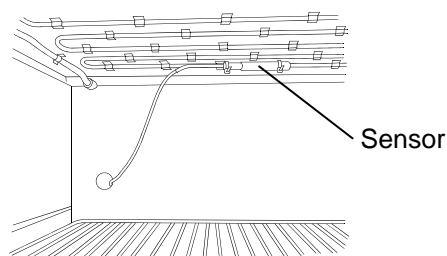

Fig. 11
5. After covering the recorder sensor with the cover provided, fix the recorder sensor under the 2nd shelf by using 2 enclosed binders. See Fig. 11.